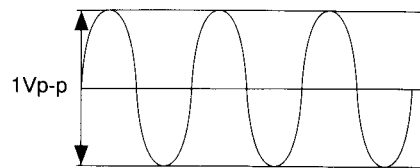

Fig. 11 1KHz SINE WAVEFORM
① 10.7 MHz OSC adjustment
② MAIN AUDIO CARRIER(10.7MHz, 280KHz) adjustment
- Vary L3 for the 1KHz sine-wave not to be distorted as shown in fig.11 looking on the scope.
③ SUB AUDIO CARRIER(10.7MHz, 150KHz) adjustment